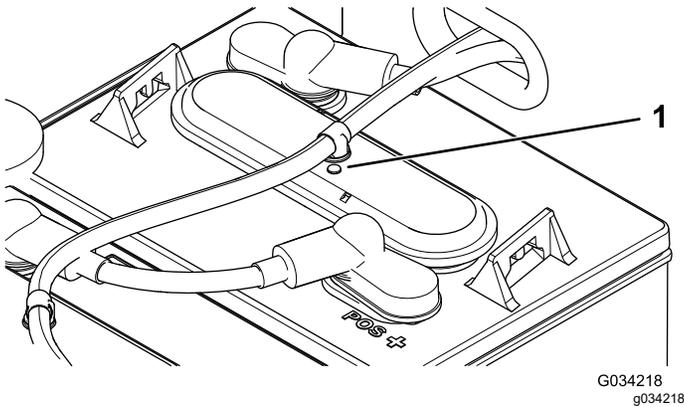

Figure 41
3. Check the eyelets on each of the batteries to see if they are either black or white (Figure 41).